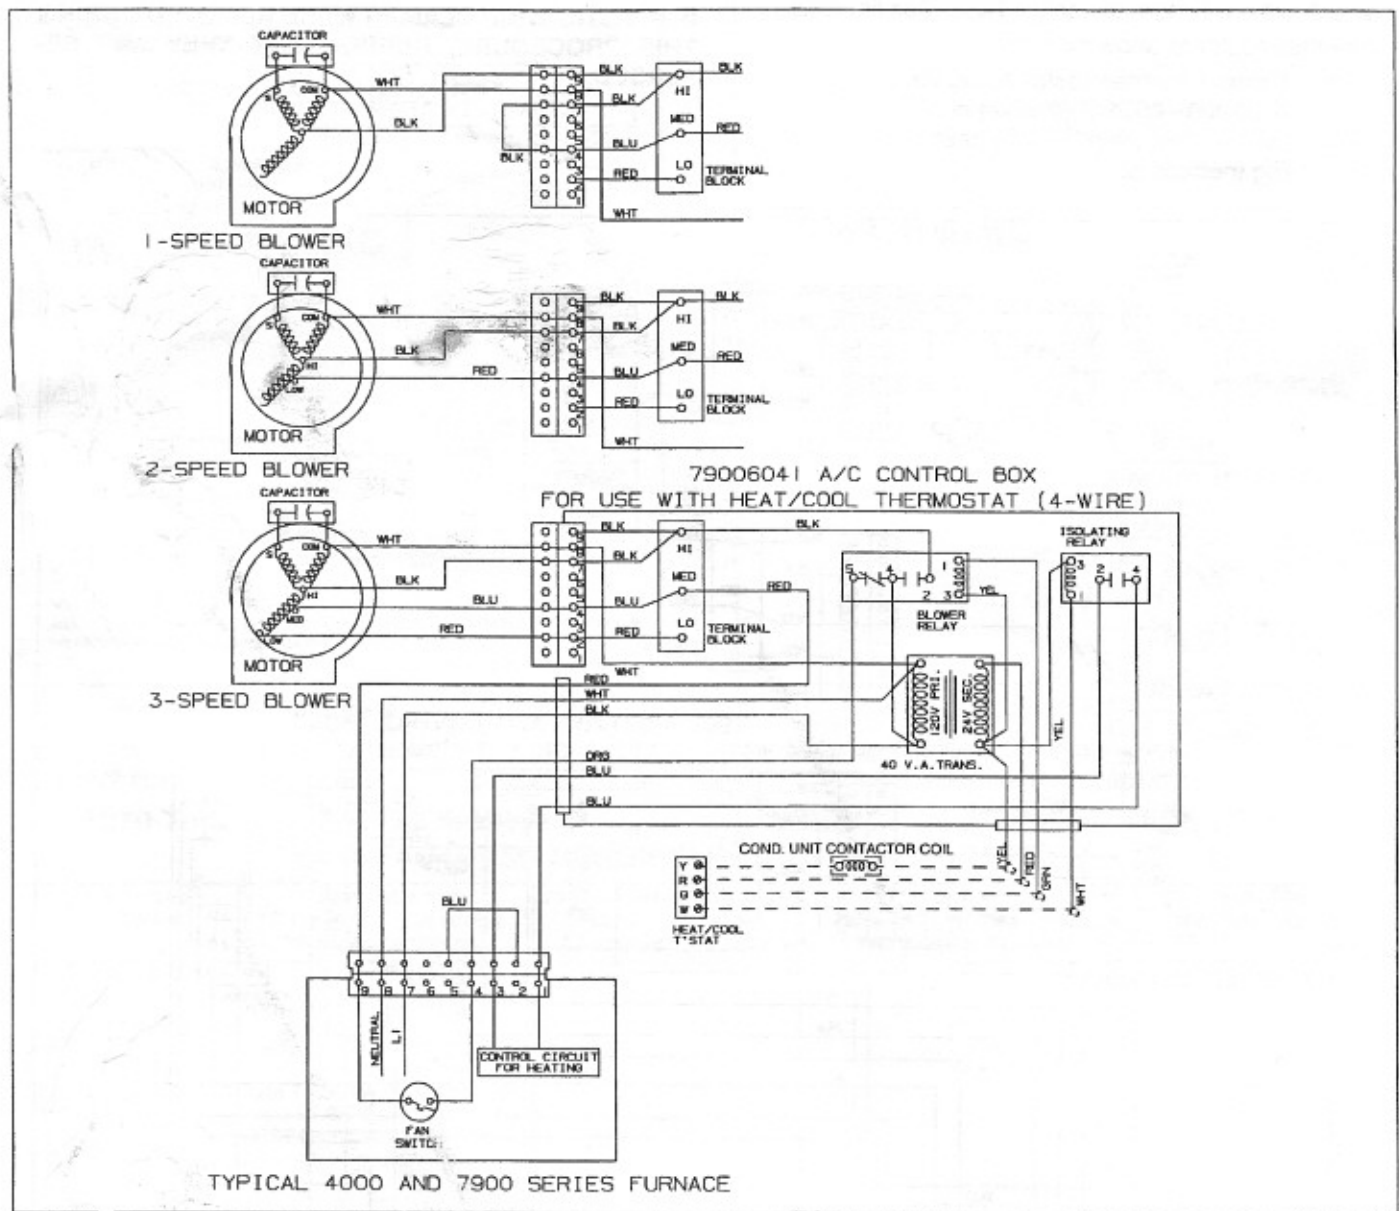

Figure 6
- Figure 6 for thermostat wiring for the 7900A6041 (4 wire) control box.